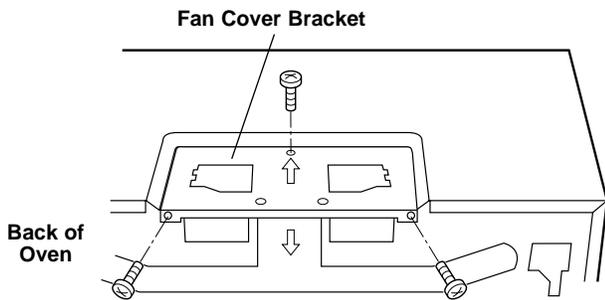

Figure 9
1. Remove and save 2 screws from back edge and 1 screw from the top center of Fan Cover Bracket. Remove Fan Cover Bracket by sliding it in the opposite direction of the arrow on the Fan Cover Bracket, as shown in Figure 9.
1. Remove and save 2 screws from back edge and 1 screw from the top center of the Fan Cover Bracket. Remove Fan Cover Bracket by sliding it in the opposite direction of the arrow on the Fan Cover Bracket as shown in Figure 9 on page 5.